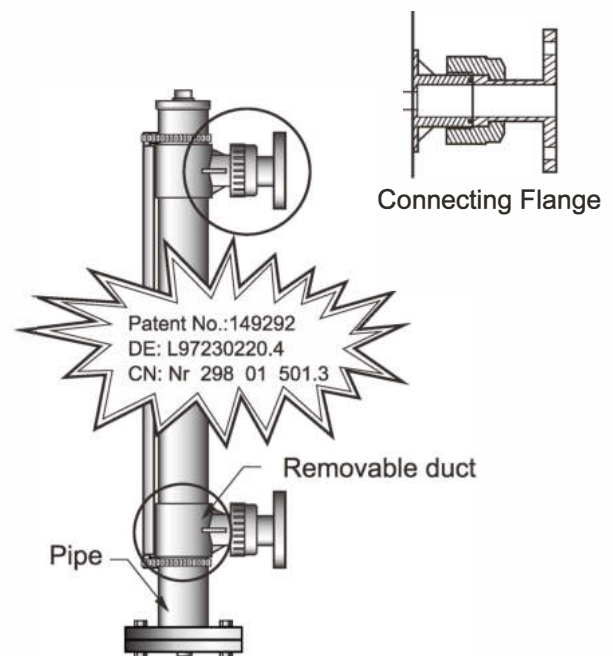

Fig.3
3.) Removable Duct and Connecting Flange (Fig.3)